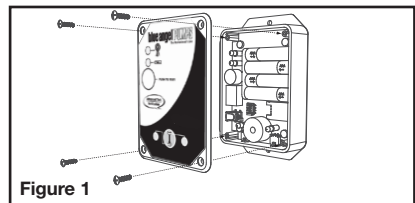

Figure 1
- b. Next, flip the "On/Off" switch to the "Off" position and unplug A/C power. Remove (4) screws, lift lid and install (4) AAA batteries. (Figure 1) The negative (-) end of the battery must touch the spring. Replace the lid and (4) screws.